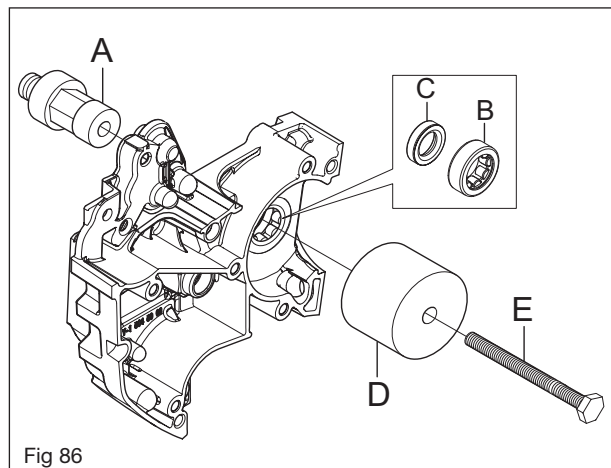

Fig 86
Use the 576 66 64-01 (A), 576 95 46-01 (D) and 725 33 80-51 (E) tools to dismantle the crankcase bearing (B) and sealing ring (C). Fit the service tool as outlined in Figure 86.